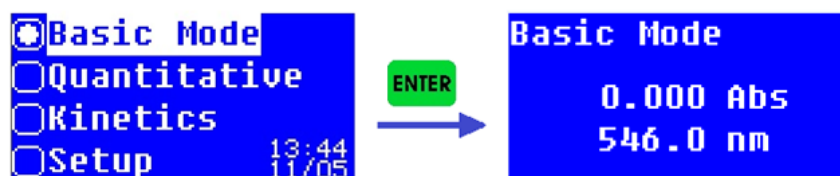

Fig. 3-6
Press “▲” or “▼” to select the function in the main interface and press “ENTER” to enter Basic Mode interface (Fig. 3-6).
Step 1: Enter Basic Mode interface (Fig. 3-6).